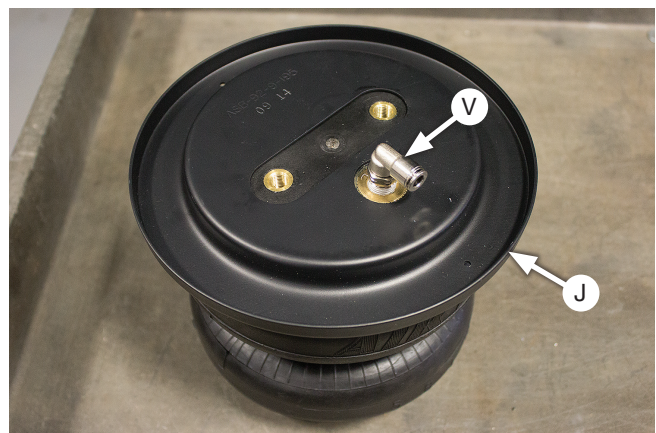

Fig. 7
1. Install swivel elbow fittings (V) into the tops of the air springs finger-tight. Tighten the swivel fittings an additional one and a half turns. Place roll plates (J) on top of the air springs. (Fig. 7)